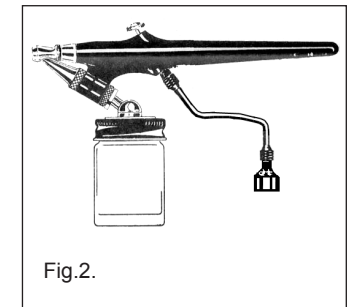

Fig.2.
- 2.4. When using a compressor (Sealey Model No. AB900), connect the air hose (19) to the air hose adaptor (supplied with the compressor) before connecting to the compressor, fig.2.